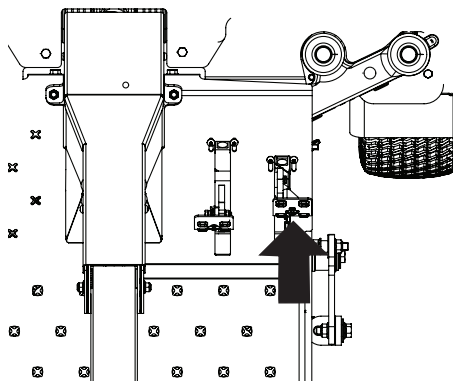

Fig. 26
1. Slowly push the reverse drive pedal forward. The mower will start to move in the reverse direction (Fig. 26).